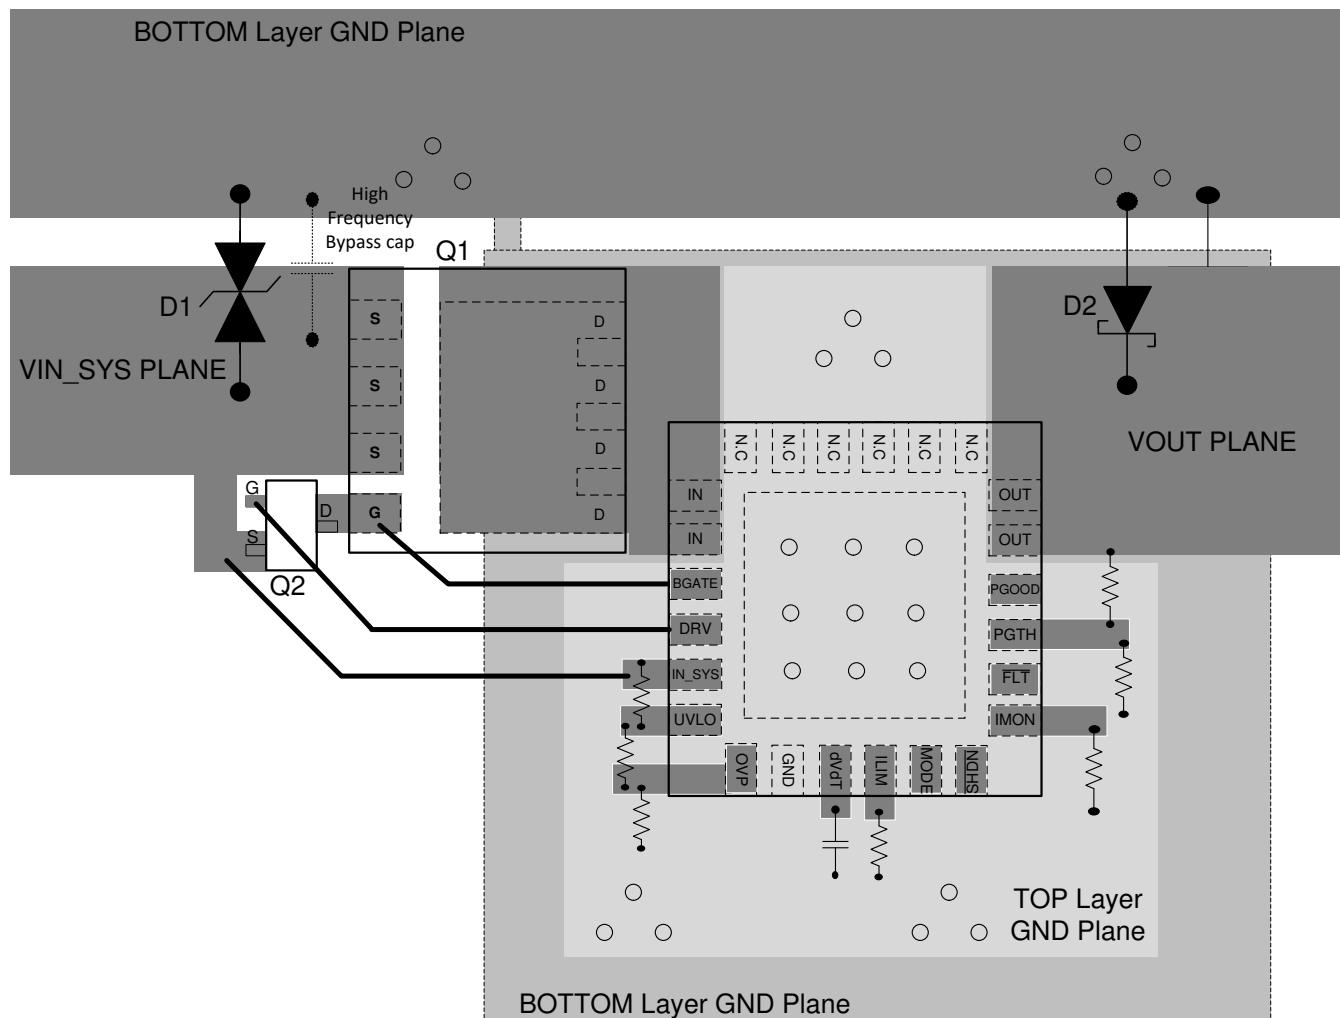
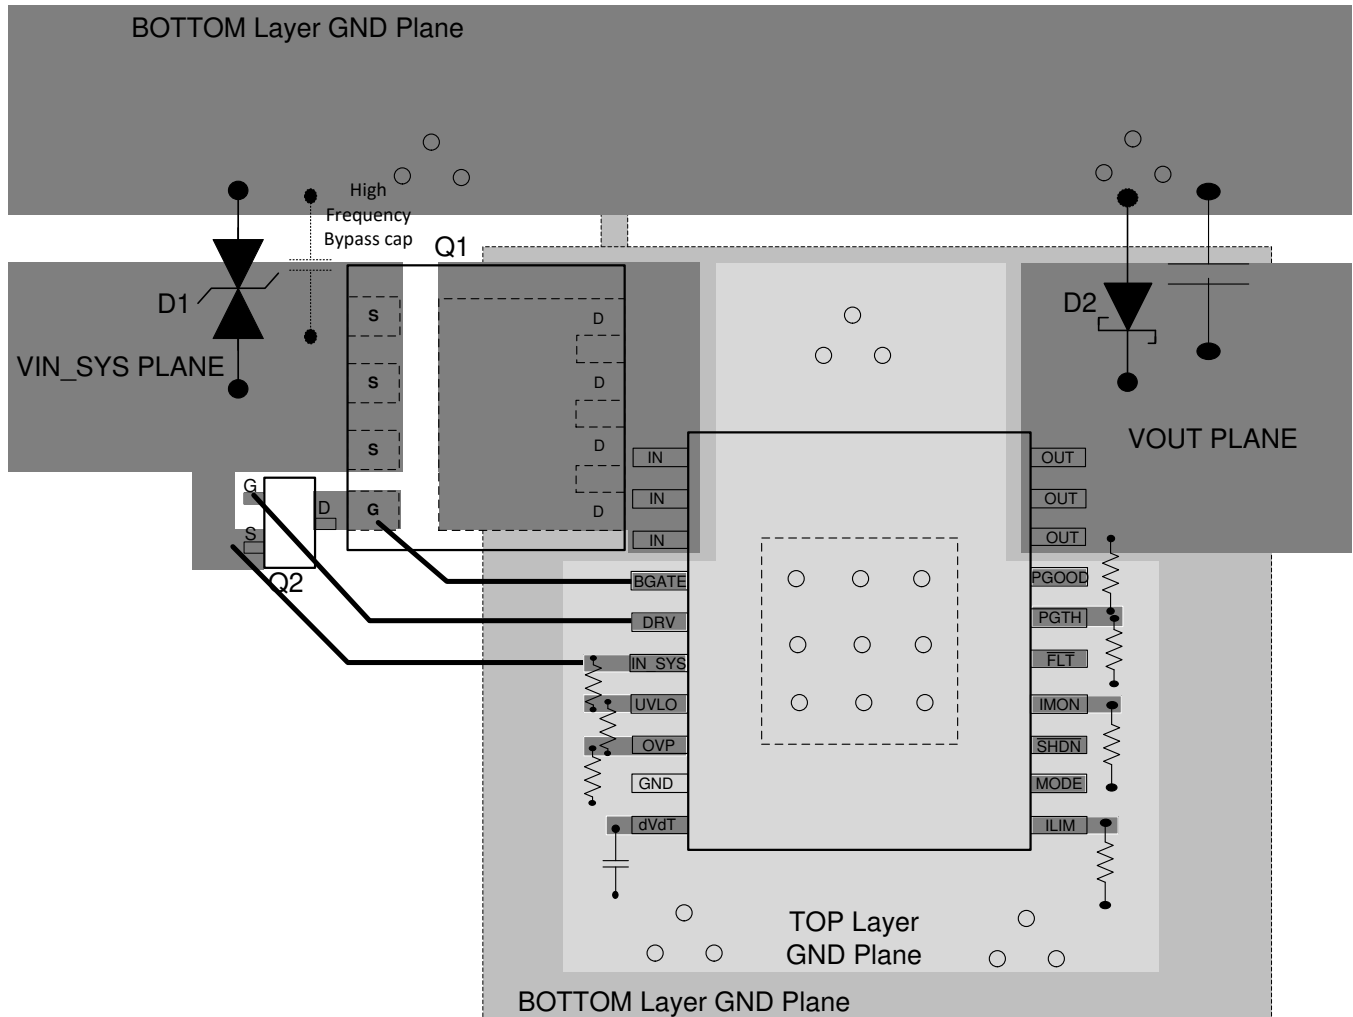

Figure 59. Typical PCB Layout Example With QFN Package With a 2 Layer PCB
Figure 60. Typical PCB Layout Example With HTSSOP Package With a 2 Layer PCB
- The external FET Q1 should be placed with DRAIN close to the V_{IN} pins of the IC and connected through a plane. The fast pull down switch Q2 DRAIN and SOURCE should be placed very close to the GATE and SOURCE terminals of Q1 with very short loop. See Figure 59 and Figure 60 for a typical PCB layout example.